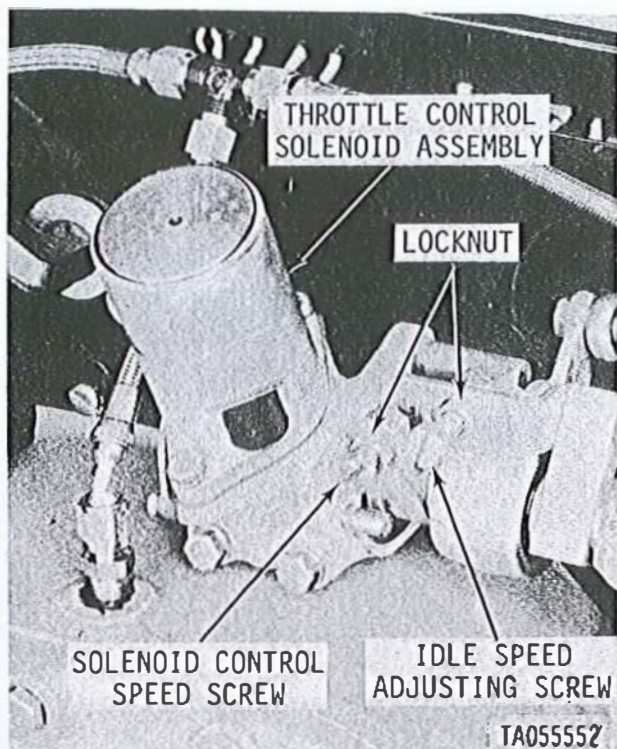

Figure 2-148.7. Idle and solenoid control speed screws, model AVDS-1790-2DR.
(1) Start and operate engine until normal operating speed is reached.
(2) With engine running, loosen locknut on idle speed adjusting screw (fig. 2-148.7).
(3) Turn idle speed adjusting screw until 700 rpm is obtained. Turn screw clockwise to increase speed, and counterclockwise to decrease speed. Tighten locknut.
(1) With engine running at normal operating temperature, loosen locknut on solenoid control speed screw (fig. 2-148.7). Activate power take-off and have an assistant increase engine speed to 1800 rpm.
(2) If 1800 rpm cannot be obtained when speed control screw engages stop, turn screw counterclockwise to increase engine rpm. If screw has not engaged stop when 1800 rpm are obtained, turn screw clockwise until screw engages stop.
(3) Allow engine to return to idle speed. Increase engine speed to 1800 rpm and recheck adjustment. If adjustment is not correct, repeat step (2) above.
(4) Tighten locknut after correct rpm (1800 rpm no load) is obtained. Stop engine.